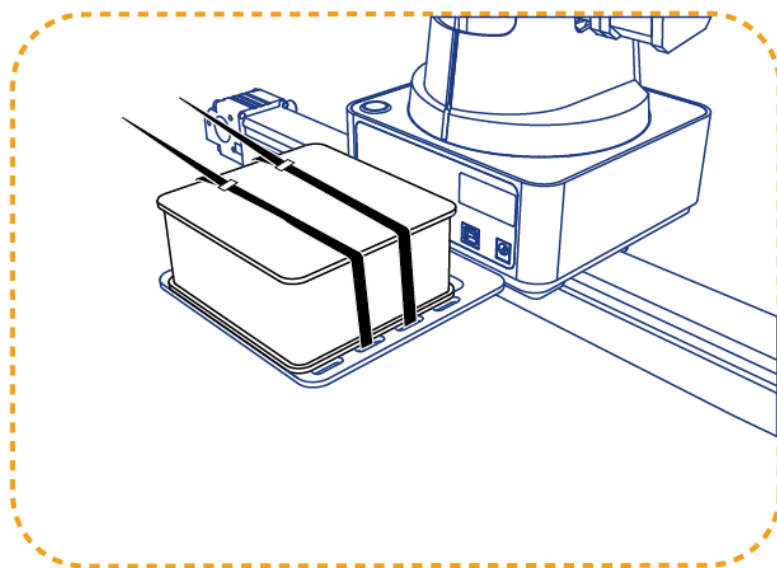

Figure 5.191 Fix air pump
2. Fix the air pump on the plate c, as shown in Figure 5.191. And connect the air pump to Dobot Magician. For details, please see *5.2.1 Installing a Suction Cup Kit*.